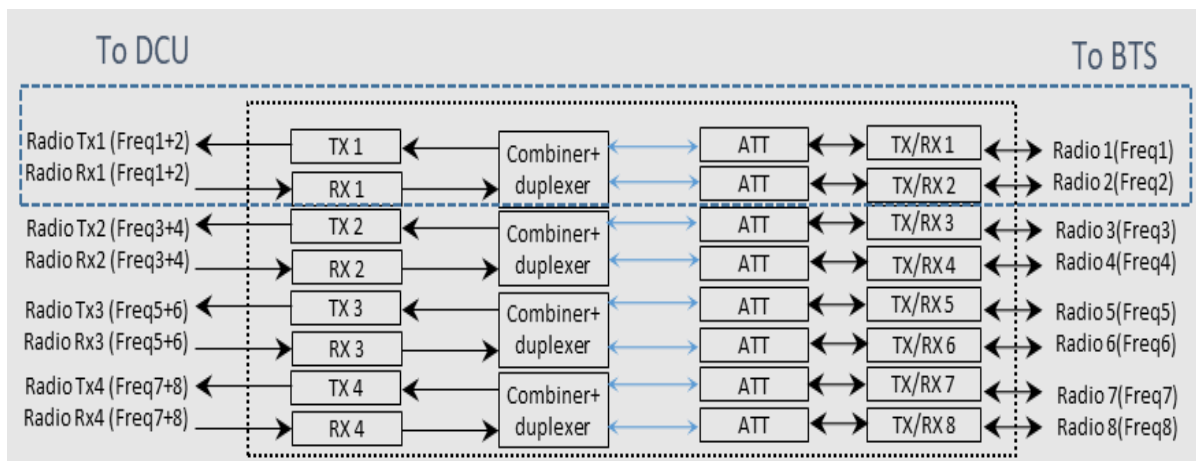

Figure 3. 2 TO 1 Matrix
- Signal combination: The RIU combines different base station signals into one wideband signal, the combination matrix of which is software-controllable, listed in Figure 3 through 5.